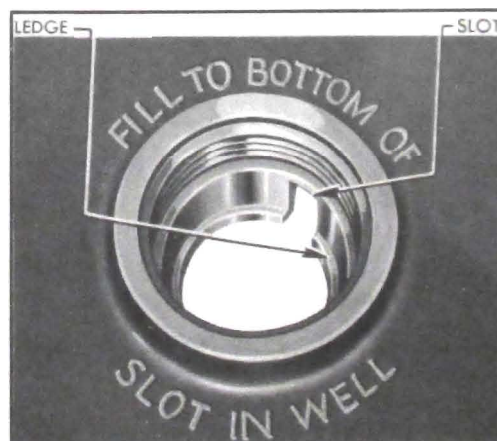

Figure 1-6—Battery Filler Well
8. **Battery.** Add distilled water to bring level to ledge at bottom of slot in well. See figure 1-6. WARNING: *Do not over fill.*